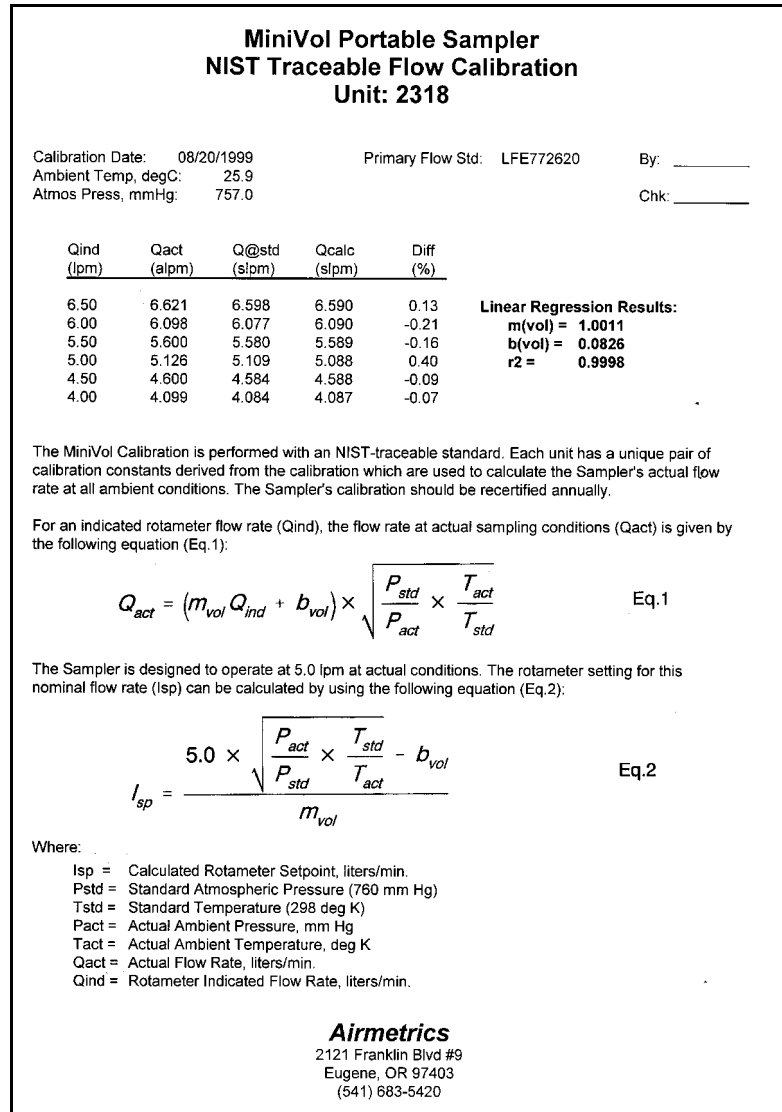

Figure A.1. Portable Sampler Calibration Output
Figure A.1 shows the results of a typical MiniVol calibration.
The columns in the table in Figure A.1 are defined as:
The **Linear Regression Results** in Figure A.1 shows the results of the best fit line of Qind (independent) to Q@std (dependent) variables:
The variance (r^2) is also listed in Figure A.1.
- the sampler's calibration slope, **m_{vol}**, and intercept, **b_{vol}**. This information is supplied to you on the "MiniVol Portable Sampler NIST Traceable Flow Calibration" that came with your sampler (Figure A.1);
To calculate the PM concentration for a sample taken with the MiniVol sampler, the volume of air that passed through the filter at standard conditions, V_{std} , or at ambient conditions, V_{amb} , must be calculated. This is most easily done in a multi-step procedure (the example that follows uses Sampler 2318 whose calibration sheet is shown in Figure A.1):